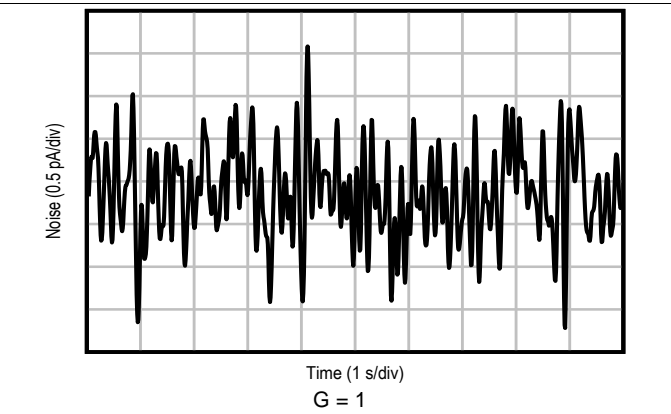

Figure 26. 0.1-Hz to 10-Hz RTI Current Noise  $G = 1$
0.1-Hz to 10-Hz RTI Current Noise	<a href="#">Figure 26</a>